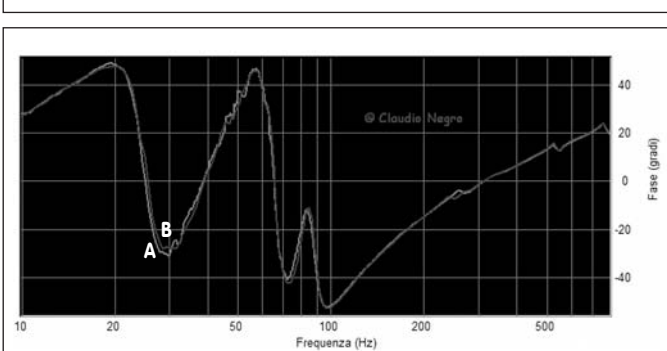

FIGURE 9: DCR impedance phase: P2 tube inside V1 (A), in the middle (B).
Another issue I studied is the position of P_2 . Should the tube be inside V_1 or V_2 or in the middle of the two? I measured the impedance phase of the DCR first with the P_2 tube inside V_1 (A) and after with it in the middle of the two chambers (B). As you can see in **Fig. 9**, F_2 is the same for both curves, meaning that the tube position is irrelevant. However, the P_2 tube inside V_1 phase (A) shows more spikes, certainly caused by its closer distance to the P_1 tube. Therefore, in this case, it's better to place P_2 in the middle